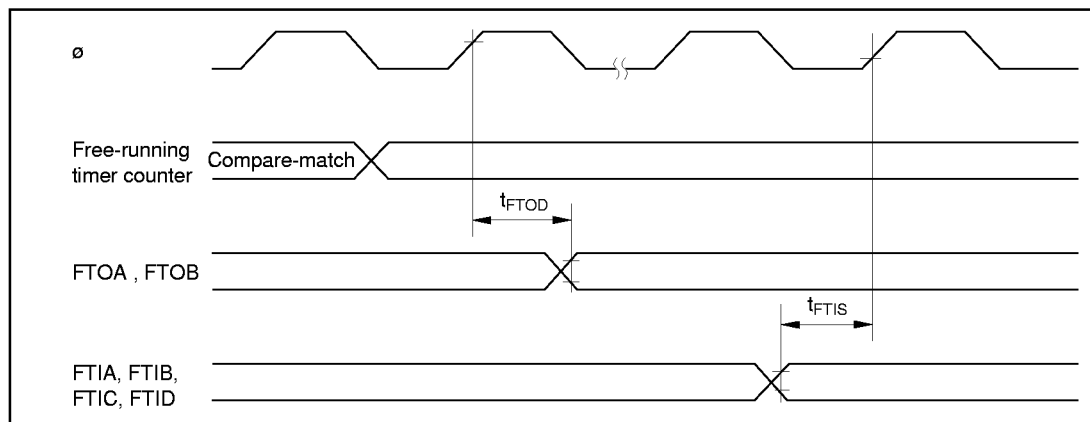

Figure 22-10 Free-Running Timer Input/Output Timing
22.3.3 16-Bit Free-Running Timer Timing	Figures 22-10 to 22-11